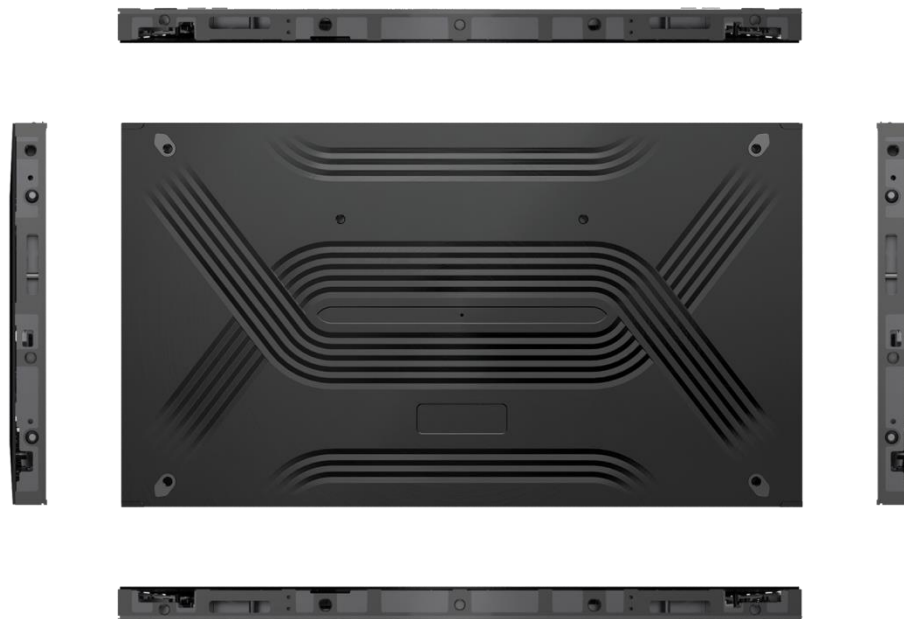

Figure 29
1. Install the left and right edgings. The left and right edgings are clipped in the side spring locating pinhole with clips (as previously described, the spring locating pin or the leftmost of the screen should be removed and an edging should be installed), as illustrated in Figure 29.